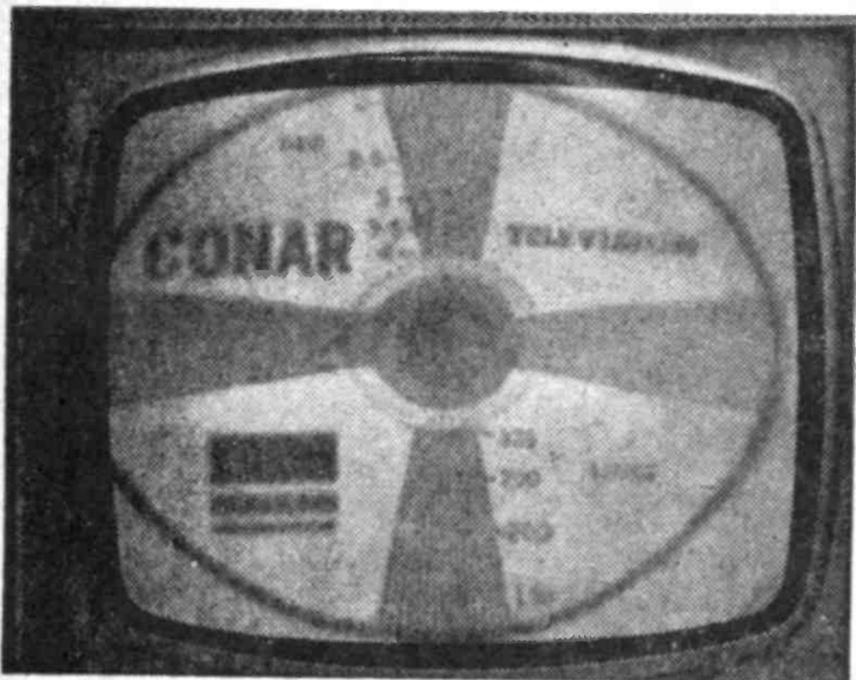

Fig. 20. Condition above is corrected by adjustment of both the horizontal linearity control and the width or drive control.
**Horizontal Linearity Control.** The horizontal linearity control may be adjusted to change the horizontal radius of the picture from the center to the left or right side. Fig. 20 shows the effect of a misadjusted horizontal linearity control. Note the elongated left side of the picture compared with the right side. To adjust the horizontal linearity control, rotate the shaft until the horizontal radius of the picture from the center to the left side is equal to the radius from the center to the right side. It's often necessary to adjust the horizontal size control along with the horizontal linearity control.